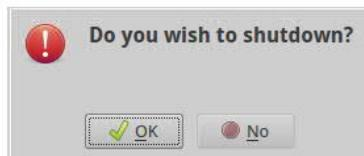

Figure 43: Analyzer Shutdown Prompt
2. A pop-up box appears on the *Main Panel* and prompts you to verify that you want to shut down the analyzer to prevent accidental button presses from causing interruption in data acquisition. (Figure 43)
3. Click the OK button to halt data acquisition, close the current data file, and display the shutdown screen. (Figure 43)